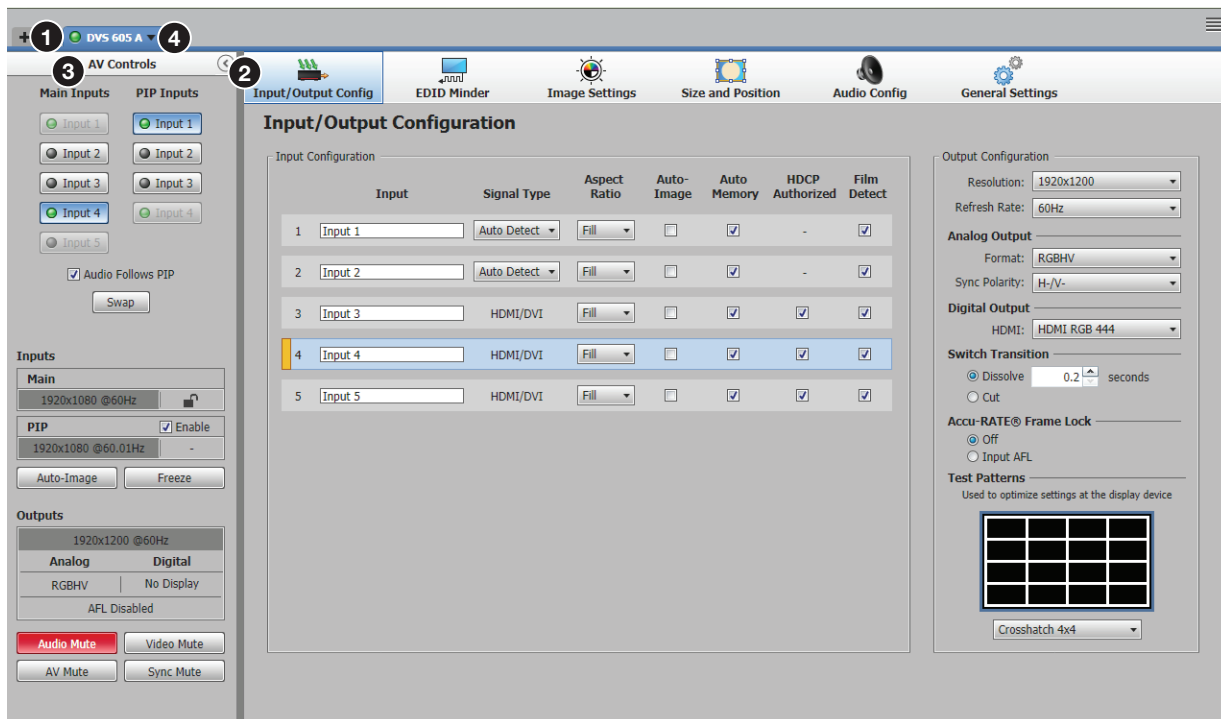

Figure 35. Device Configuration Pages
When connected to an online device, a connection status icon (circle) shows green on the device name tab (see figure 35, ❶).